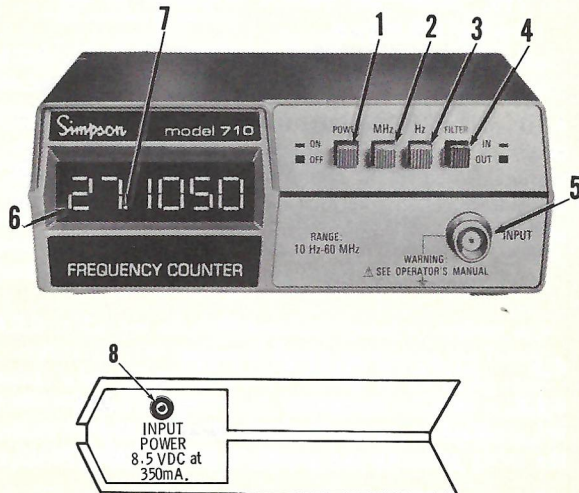

Figure 3-1. Front and Side Panel, Controls, Connectors, and Indicators
**3.2.1** Table 3-1 lists all front, rear panel controls, connectors, and indicators. Figure 3-1 shows the locations.